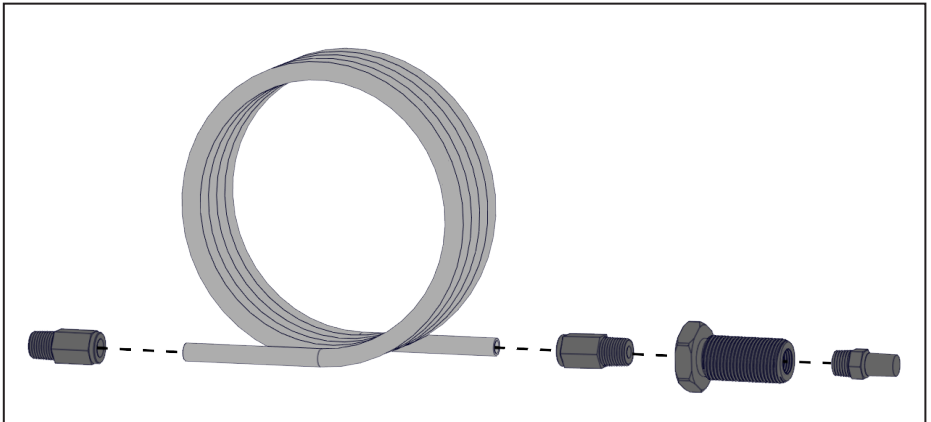

Figure 44 — Tubing Installation Remote Blowdown Muffler assembly
- Install the tube into the push-to-connect bulkhead fitting (Figure 44)